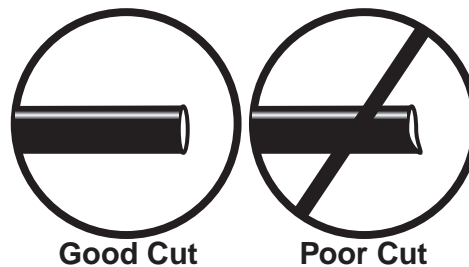

fig. 12
WHEN CUTTING OR TRIMMING THE AIR LINE, USE A HOSE CUTTER, A RAZOR BLADE OR A SHARP KNIFE. A CLEAN, SQUARE CUT WILL ENSURE AGAINST LEAKS. DO NOT USE WIRE CUTTERS OR SCISSORS TO CUT THE AIR LINE. THESE TOOLS MAY FLATTEN OR CRIMP THE AIR LINE, CAUSING IT TO LEAK AROUND THE O-RING SEAL INSIDE THE ELBOW FITTING (FIG. 12).
8. Cut off air line leaving approximately 12" of extra air line. A clean square cut will ensure against leaks (see fig. 12). Insert the air line into the air fitting. This is a push to connect fitting. Simply push the air line into the 90° swivel fitting until it bottoms out (9/16" of air line should be in the fitting).
- a. Check the air line connection by deflating the spring and removing the line by pulling the collar against the fitting and pulling firmly on the air line. Trim 1" off the end of the air line. Be sure the cut is clean and square (see fig. 12). Reinsert the air line into the push-to-connect fitting.